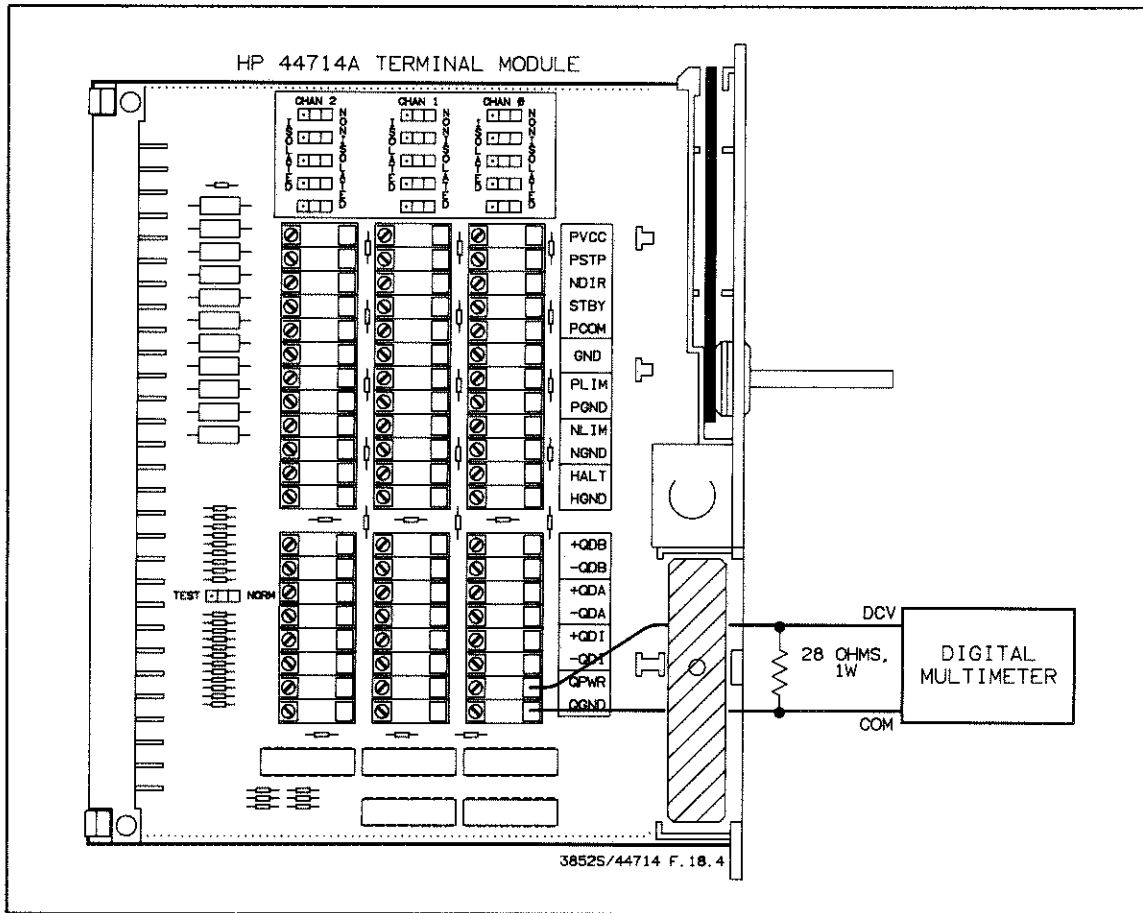

Figure 18-4 QPWR Power Supply Test Connection
2. Refer to Figure 18-4. Connect a 28Ω , 1 W resistor between the DCV (HI) and COM (LO) terminals of a digital multimeter. Connect the DCV input of the multimeter to the QPWR connection and the COM (LO) input to the QGND connection on the terminal module.